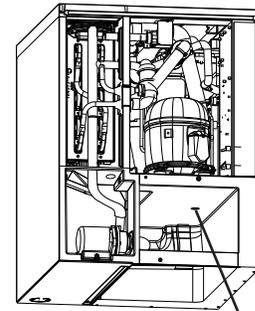

Fig. 5 Bin Control Lens
4) **Bin Empty Diagnosis:** As water begins to fill the water tank (1-min. fill), place an object 5" to 7" (127 to 178 mm) away from the UBC lens. See Fig. 5.